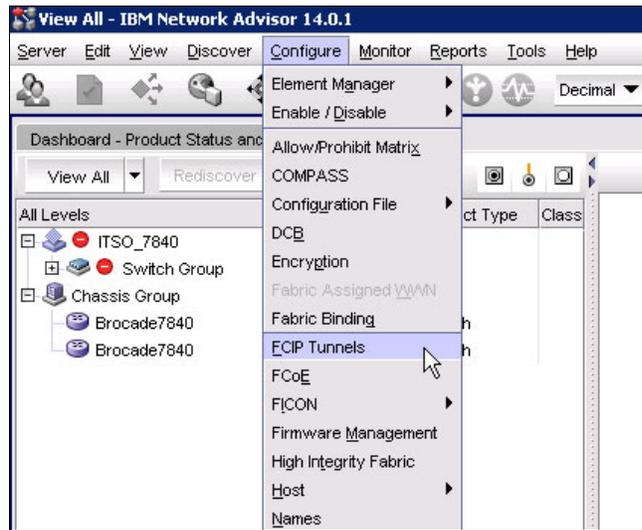

Figure 4-5 FCIP Tunnels menu
- From the Overview window, click **Configure** → **FCIP Tunnels** as shown in Figure 4-5.
1. Click **Configure** → **FCIP Tunnels** from the Overview window (Figure 4-5 on page 114).